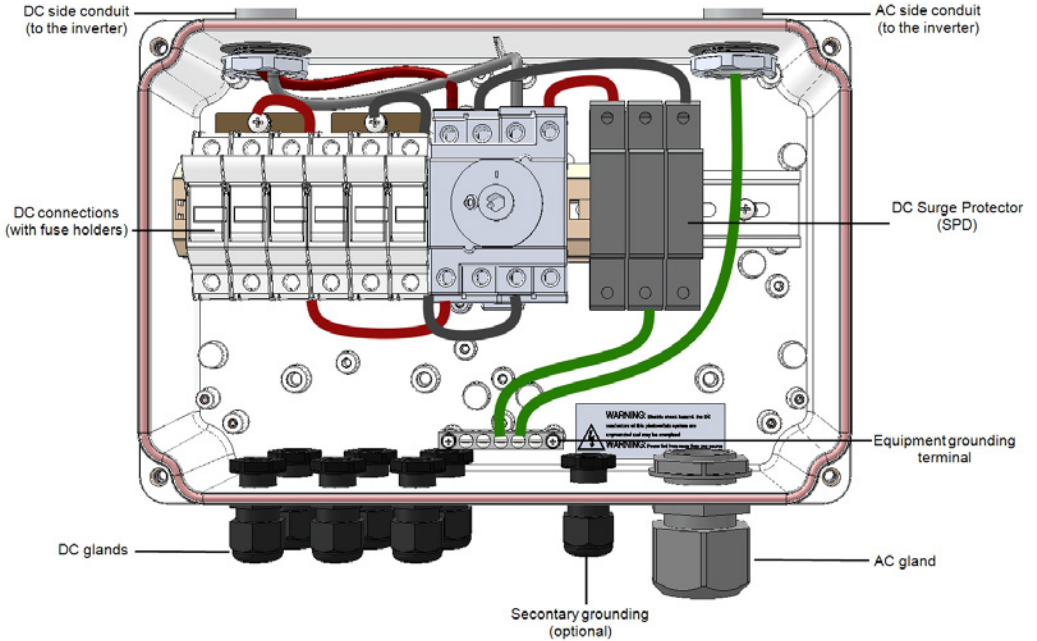

Figure 30: Inside the DC Safety Unit with fuses
- Open the AC cable gland and insert the cable through the gland (see *Figure 30*).